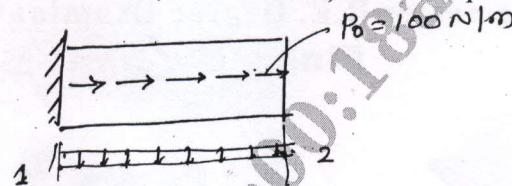

Fig Q4(a)
- 4 a. Figure Q4(a) shows a bar subjected to uniformly distributed load ' P_0 ' as shown Fig Q4 (a). Taking $E = 70\text{GPa}$, Area $A = 10^4\text{mm}^2$, determine : i) Nodal displacement ii) Stresses